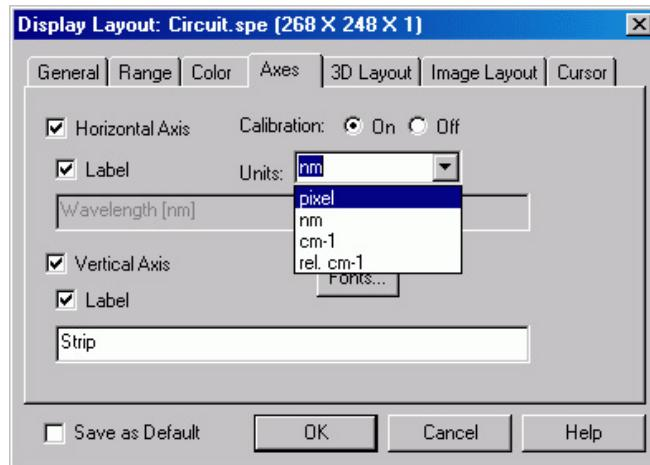

Figure 105. Axes tab page
1. Open the Display Layout dialog box and open the Axes tab page (Figure 105). Note that Horizontal Axis, Vertical Axis, and the Label box for each are all checked (If unchecked, the corresponding axis or label would not be displayed.)